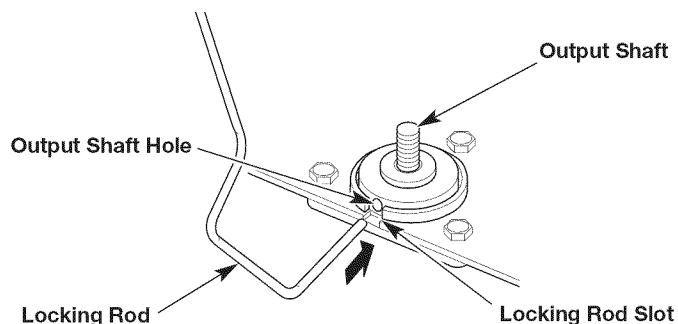

Fig. 7
1. Align the output shaft hole with the locking rod slot. Insert the locking rod through the locking rod slot and into the output shaft hole (Fig. 7).
6. Align the output shaft hole with the locking rod slot. Insert the locking rod through the locking rod slot and into the output shaft hole (Fig. 7).